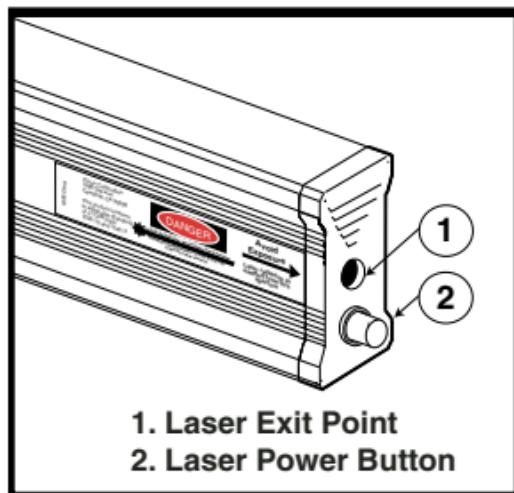

Figure 5: Laser End Components
- Press the push button on the laser end cap (Figure 5 below). When the laser is activated, the push button glows red.
- Push the laser power button located on the laser end cap (Figure 5, page 5). When the laser is on, the button glows red.